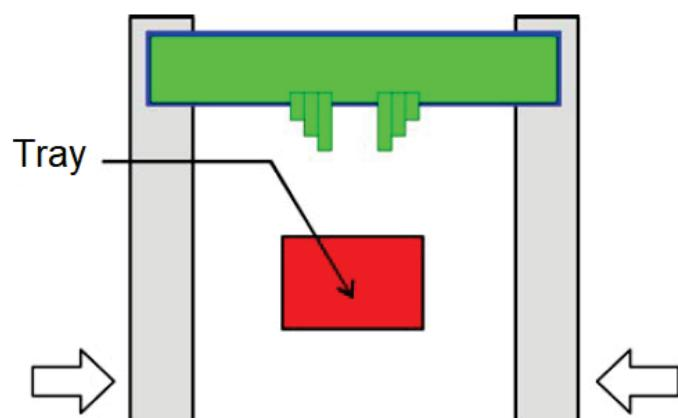

Figure 4 Lift elevation complete
3. After completing lift elevation, left and right wrap plates squeeze in (Figure 4).